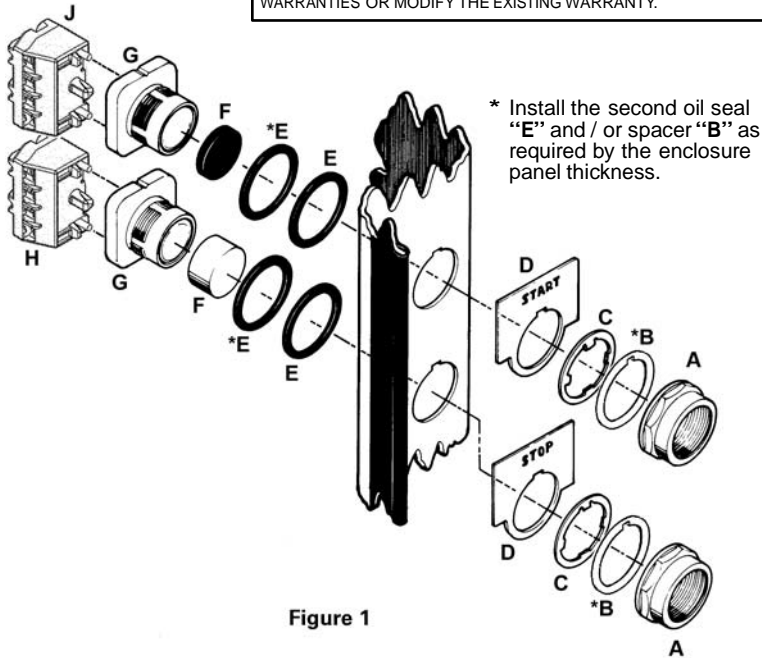

Figure 1
- c. Mounting hole dimensions are shown in Figure 1. The operators require mounting on 2 1/4 inch minimum centers.
2. Mount each operator base **H** in enclosure as shown in Figure 1 and tighten to 15 ft. lbs.